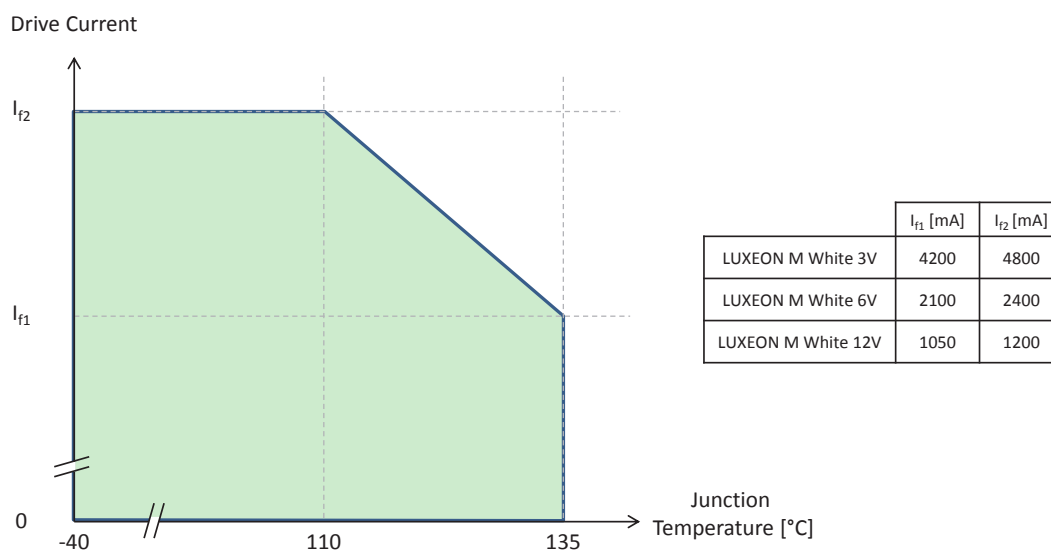

Figure 1: Maximum permissible operating conditions for LUXEON M White.
- See Figure 1 for more details on the maximum permissible operating conditions for LUXEON M White.
- Residual periodic variations due to power conversion from alternating current (AC) to direct current (DC), also called "ripple", are acceptable if the following conditions are met:
Notes for Figure 1: